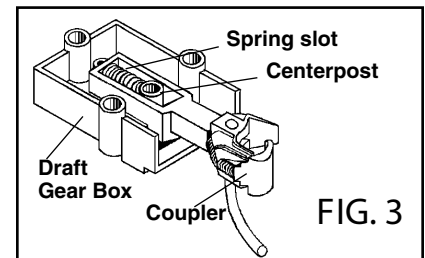

FIG. 3
- Place Coupler into Draft Gear Box, as shown in **Fig.3.** Add a little more #231 *Greas-em* and "toggle" coupler back and forth in box to burnish further.